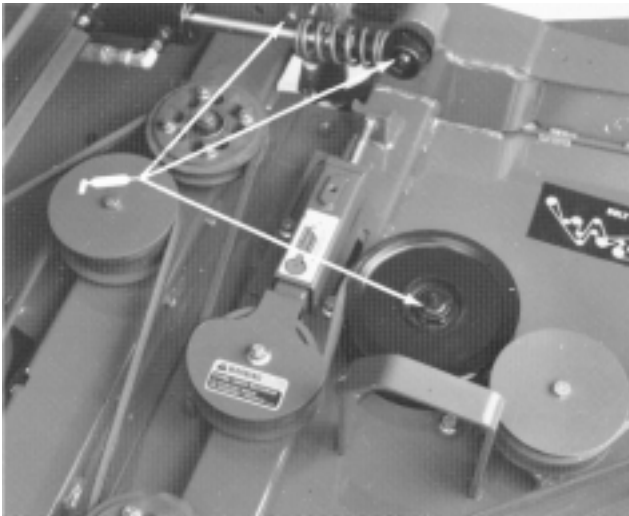

Figure 32
Cutting deck (2 & 4 wheel drive machines) – blade spindles (7), lift cylinder ball joints (4) and Wing Deck Pivot pins (4) (Fig. 32); Castor fork shaft (4) (Fig. 33); PTO to gear box drive shaft assembly (3) (Fig. 35); Wing Deck Ball Joints (4) (Fig. 35) and Lift arm ball joints (2) (Fig. 36).